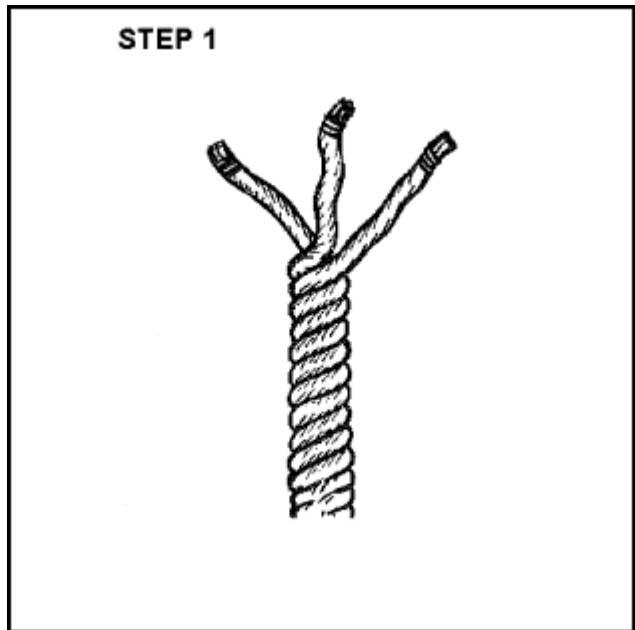

Figure 12-25. Making a Back Splice, Step 2
- Step 2. To start the crown knot, form a bight with the left strand and lay the bitter end of the strand between the right and center strand. Then lay the center strand over the running end of the left strand. Take the right strand under the running end of the left strand, over the running end of the center strand, and back through the bight of the left strand. Then take all the slack out of the strands and gently pull the strands tight (Figure 12-25).